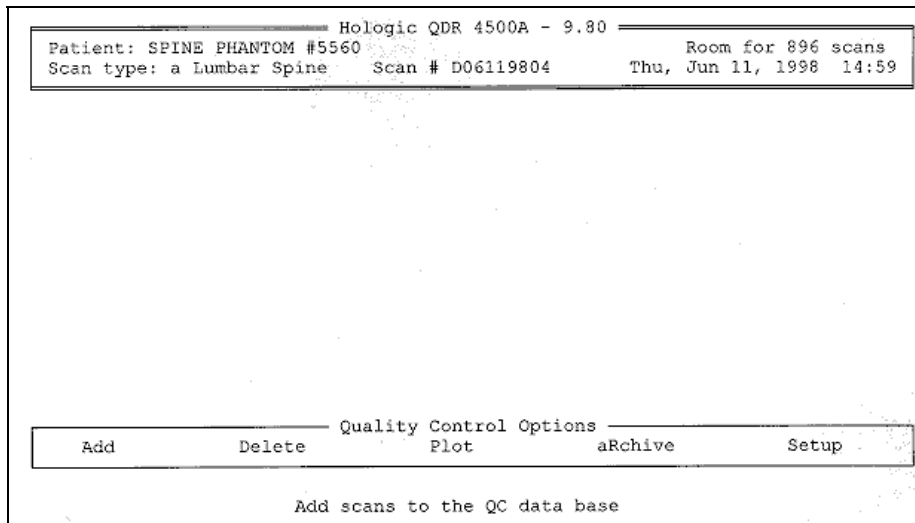

Figure 6-8. Spine phantom QC options screen
- The 'Quality Control' Options menu appears. See Figure 6-8.